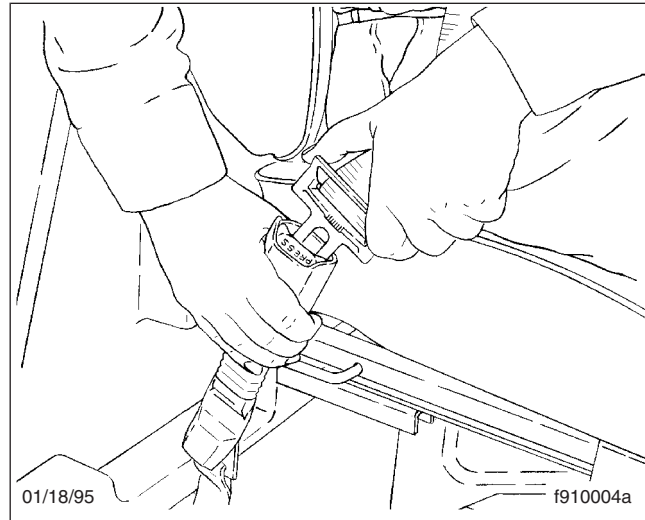

Fig. 7.7, Fastening the Three-Point Belt
2. Fasten the three-point seat belt by pushing the link into the buckle until it latches (Fig. 7.7). Give the belt a tug at the buckle. If the buckle unlatches, repeat this step. If the problem continues, replace the three-point seat belt.
2. Fasten the three-point seat belt by pushing the latch into the buckle. Listen for an audible click. See Fig. 7.7.